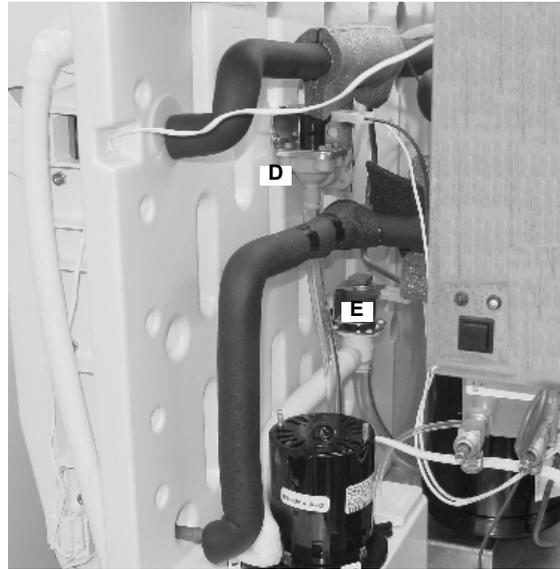

Figure 10.
7. Disconnect the electrical plug from the Water Fill Valve (D) and Water Dump Valve (E) (Figure 10).